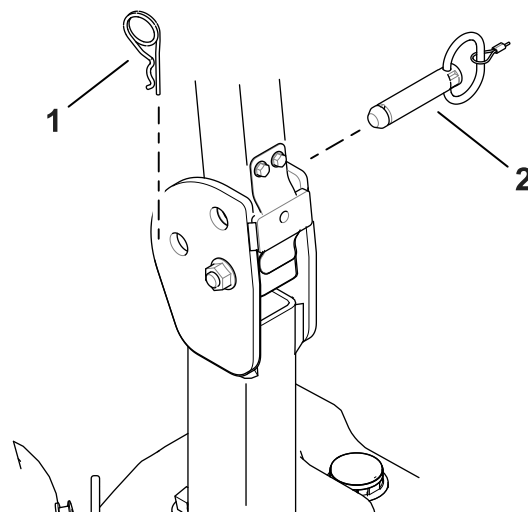

Figure 2
4. Remove the ROPS pins and place them into down position hole (Figure 2).